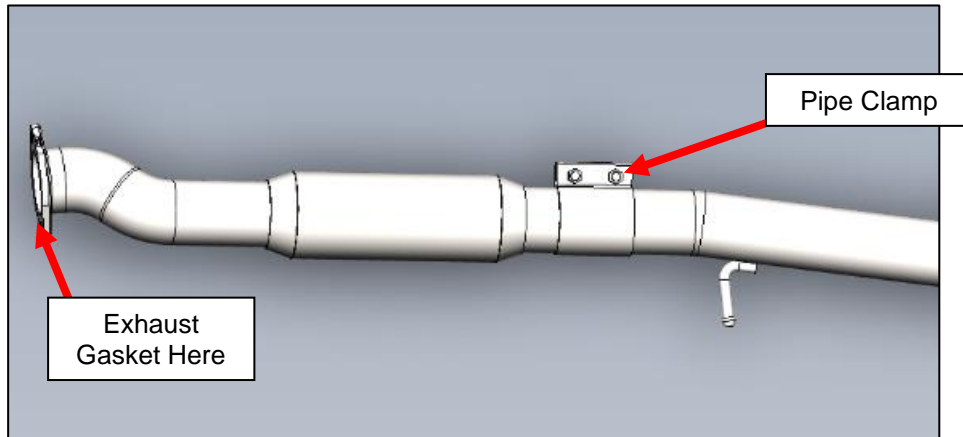

Figure 4
7. Locate the Resonator, Pipe Clamp, Exhaust Gasket and all M10 Hardware. Join the Resonator to the Y-Pipe with the M10 Hardware and an Exhaust Gasket in between. Secure the other end of the Resonator to the Mid-Pipe with the Pipe Clamp. *Figure 4.*